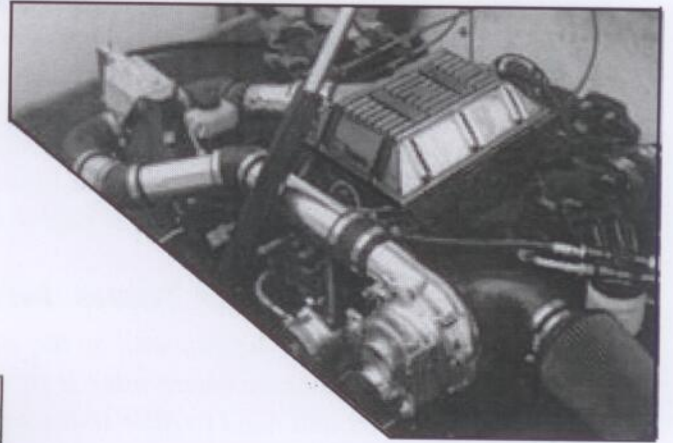

FIGURE F2
1. Review figures F2 - F4 before proceeding. Determine the location where you would like to mount the intercooler. The intercooler has several mounting tabs, find a place where these may be utilized, it should be out of the way of the engine, sitting close to the level of the ProCharger outlet. Ideally, it should be kept somewhat near the engine to minimize the distance the charge air has to travel, minimizing the number of bends it has to make (Refer to figure F2) for an example. After you have determined the ideal mounting location, fasten the tabs to the mounting surface. A straight section of strap has been provided for fabricating mounting brackets. At the bottom of the intercooler is another tab. Bend and drill the strap so that it may be bolted to the bottom tab and to another mounting surface.